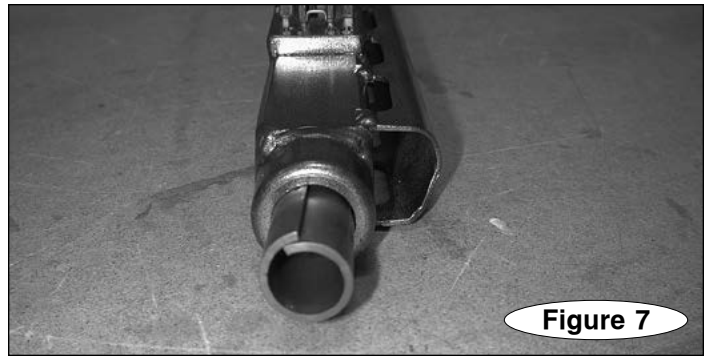

Figure 7
13. Collapse the replacement outer arm bushing and insert it into the end of the outer arm (Figure 7). The bushing will snap into place when it is fully inserted.